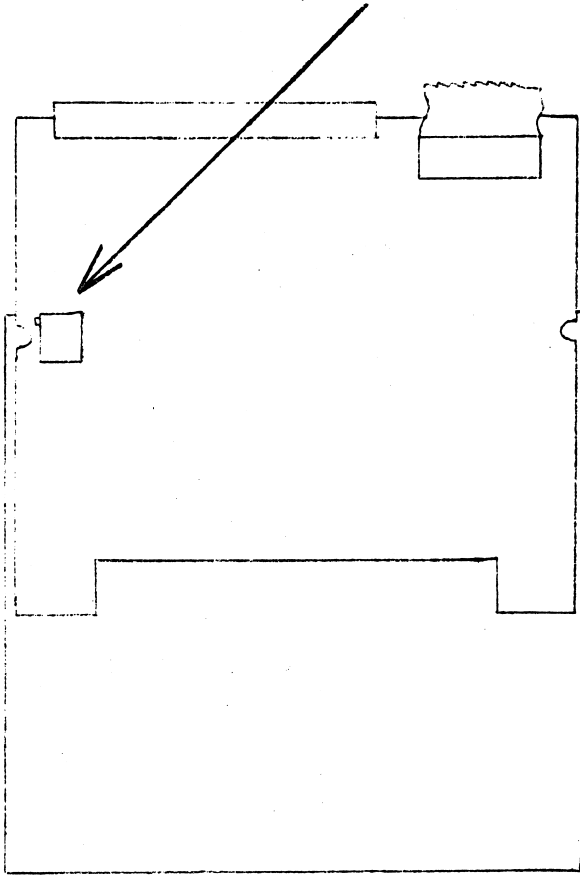

Figure 1
- B. Remove the drive cover by removing four (4) screws, two on either side. After removing them, lift the cover off the drive.
- D. The drive speed is adjusted by turning the SPEED CONTROL POTENTIOMETER. This is a rectangular box with an adjustment screw coming out of the side. It is located on the left side of the printed circuit card which is on top of the drive (see Figure 1).